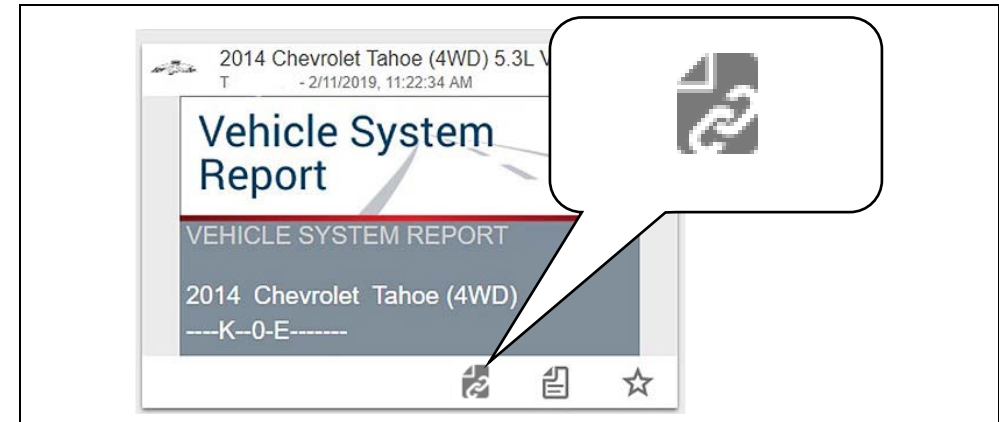

Figure 16-18
1. From Shop Files, select the **Copy icon** (Figure 16-18) on the file card.